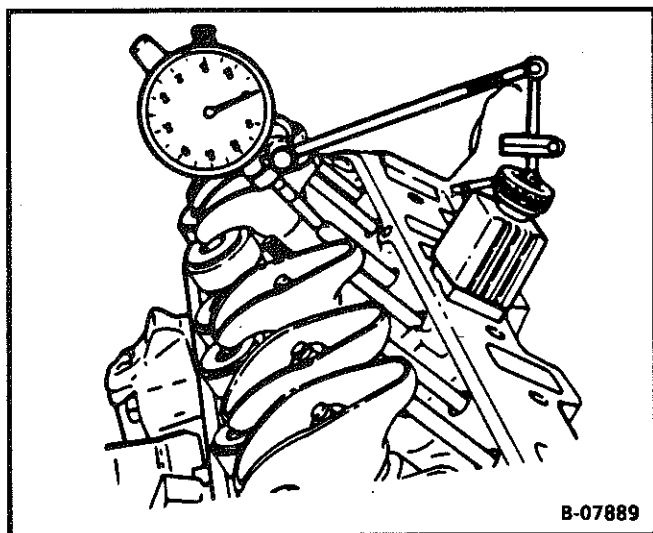

Figure 22 - Measuring Camshaft Lobe Lift
2. Refer to Figure 22. Position the dial indicator (part of J 8520) so the plunger rests on the pushrod end, as shown. Make sure the pushrod is in the lifter socket.